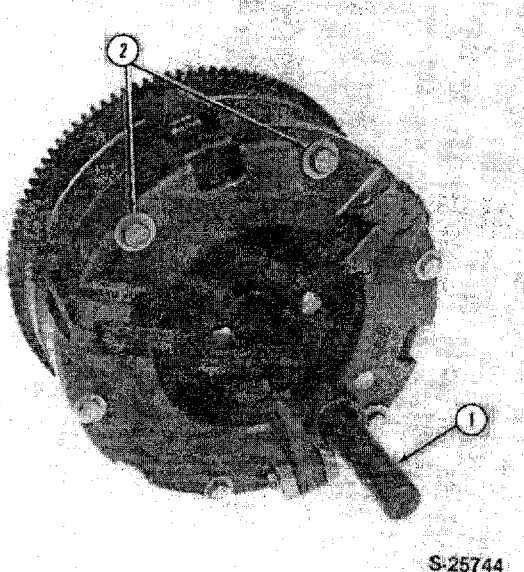

Figure 14
10. Position the clutch pressure plate assembly on the flywheel and install the six mounting bolts, Figure 14.
11. Use alignment arbor FNH 00077 to align clutch disc with flywheel, Figure 14.